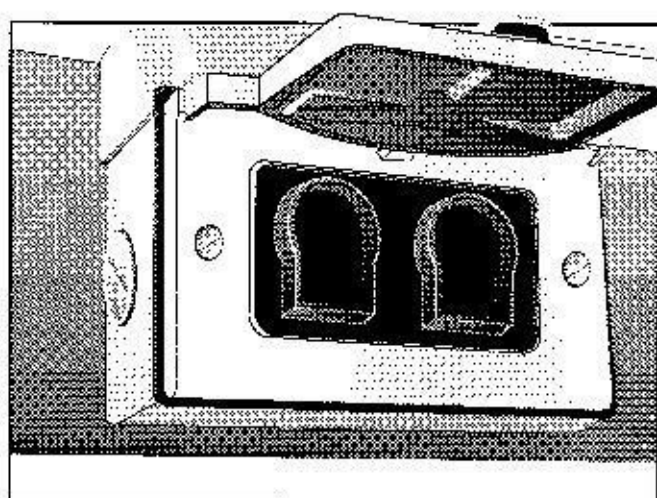

Figure 1-10
- (2) short cables with push-lock connectors on both ends. These cables are used to connect wheel units to rack-mounted interface modules (see Figure 1-10) in normal- to short-wheel base applications.